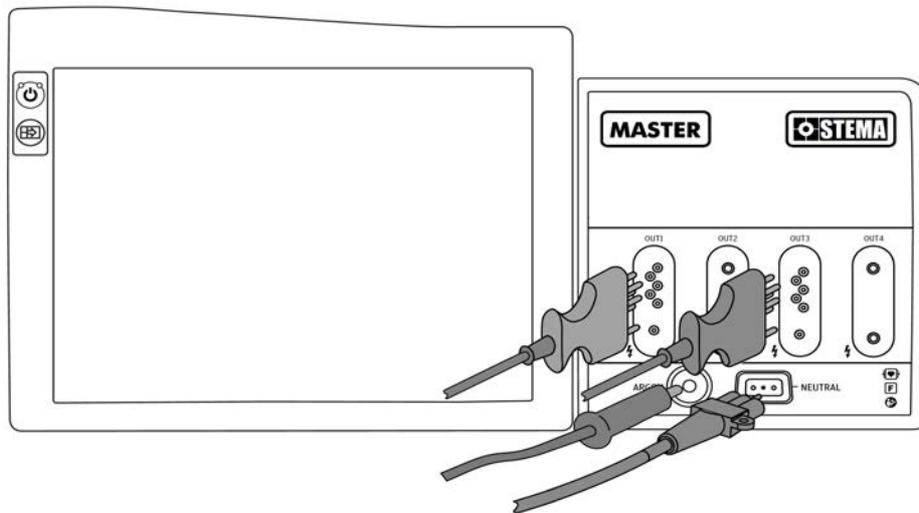

Figure 7. Method of connecting accessories to outputs 1 and 3 (SDS) in the STEMA MASTER system
The method of connecting **accessories** to the universal outputs (**Fig. 1 items 1, 3**) with the Smart Device instrument detection system is explained in **Fig. 7**.